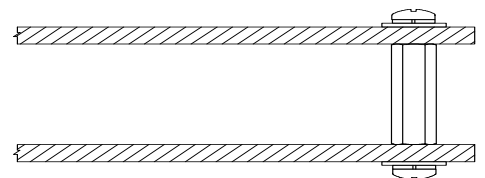

FIG. 3-20 STANDOFF ASSEMBLY
Step 4. Install the relay option board on the standoffs. (Fig. 3-20)